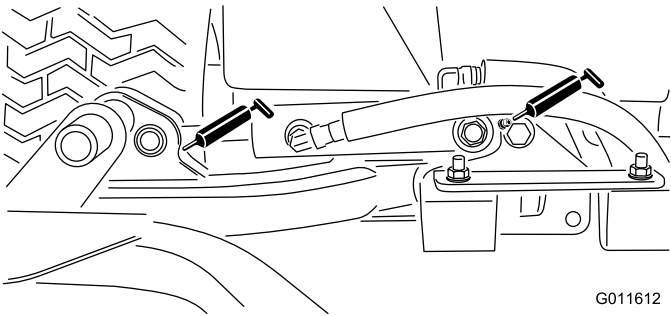

Figure 31
- Cutting unit lift arm cylinders (2 each) (Figure 31)